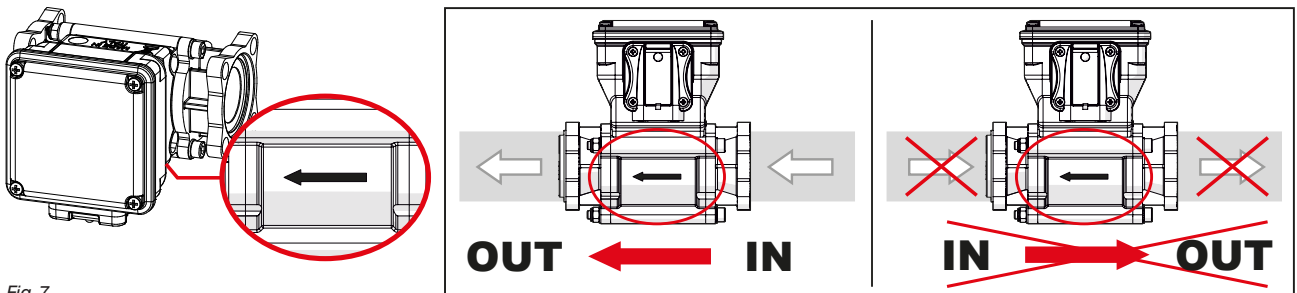

Fig. 7
- Observe the correct **inlet-outlet direction of the liquid**, as indicated by the arrow printed on the flowmeter body (Fig. 7).